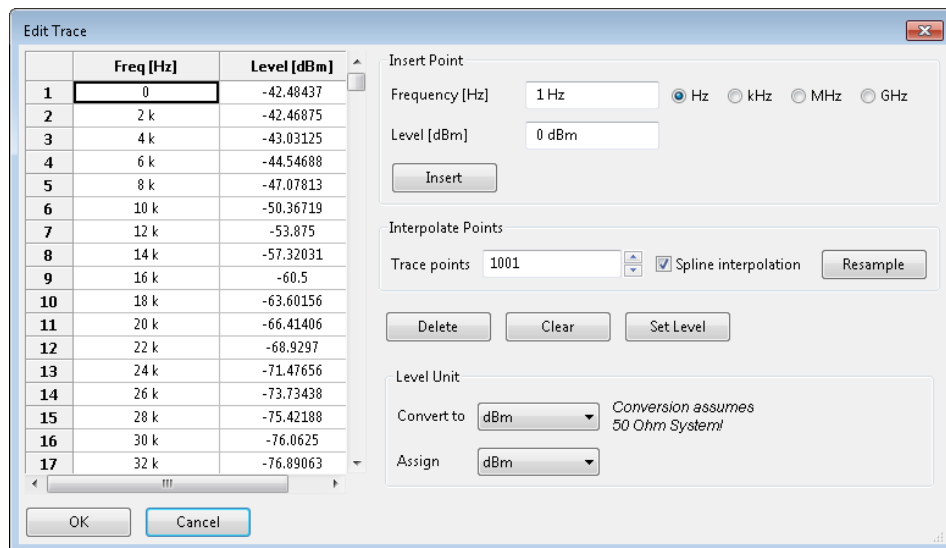

Figure 3.5.: Dialog to manipulate data points of a trace
**New, edit:** You can create a new trace and you can also edit any existing trace. When pressing the appropriate button of either of these operations a subsequent dialog enables you to manage all data points of a specific trace (see fig. 3.5). You can insert new points by providing an x- and an y-value, you can change the level of all selected points at once to the level value you provided in the INSERT POINT section by pressing the SET LEVEL button, you may delete any number of existing points and you may clear all points. You can resample the trace points you inserted so far by entering a number of target trace points and pressing the RESAMPLE button. If you have enabled the checkbox SPLINE INTERPOLATION the resampling is done using spline interpolation, else linear interpolation is used. Furthermore you can convert the y-values of a trace to a new unit, if there exists a specific conversion. You can also assign a new x- or y-unit to any trace. This will leave the values of the trace unchanged. If you finished all manipulations to data points make sure to press the OK button to apply all changes. Pressing the CANCEL button will abort the operation.